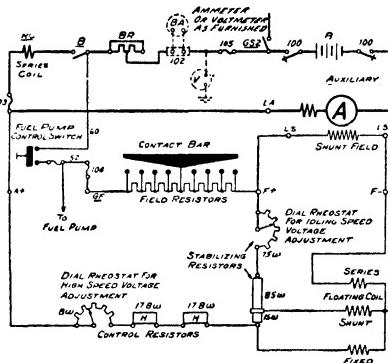

Fig. 32. Fundamental Connections of Voltage Control Relay
**OPERATION.** 1. *Connections.* Fig. 32 shows the fundamental schematic connections. The auxiliary generator shunt field is separately excited from the locomotive battery through the relay field resistors and contacts.